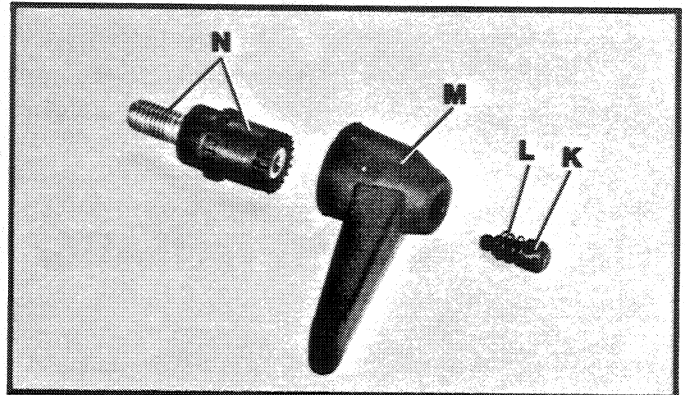

Fig. 8
7. Remove screw (K) Fig. 8, and spring (L) from handle (M) and remove handle (M) from stud (N). Do not lose spring (L).